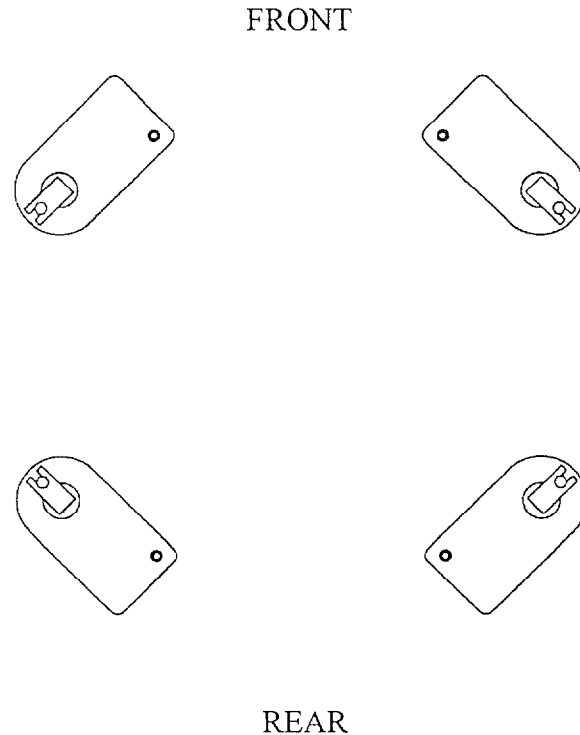

Figure 7 – Arm Installation
1. Remove the four (4) 5/16"-18UNC x 3/4"LG. hex head bolts that are holding the arm pins to the arm. Install the arms on the carriages. Refer to **Figure 7**.